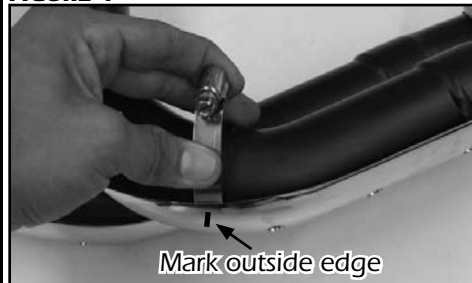

**FIGURE 3**
5. Install #20 hose clamps by feeding tail end of clamps into heat shield clips (Figure 3). Take note of screw head direction (Figure 5). Screw head must be accessible when system is installed on motorcycle for adjustment purposes.